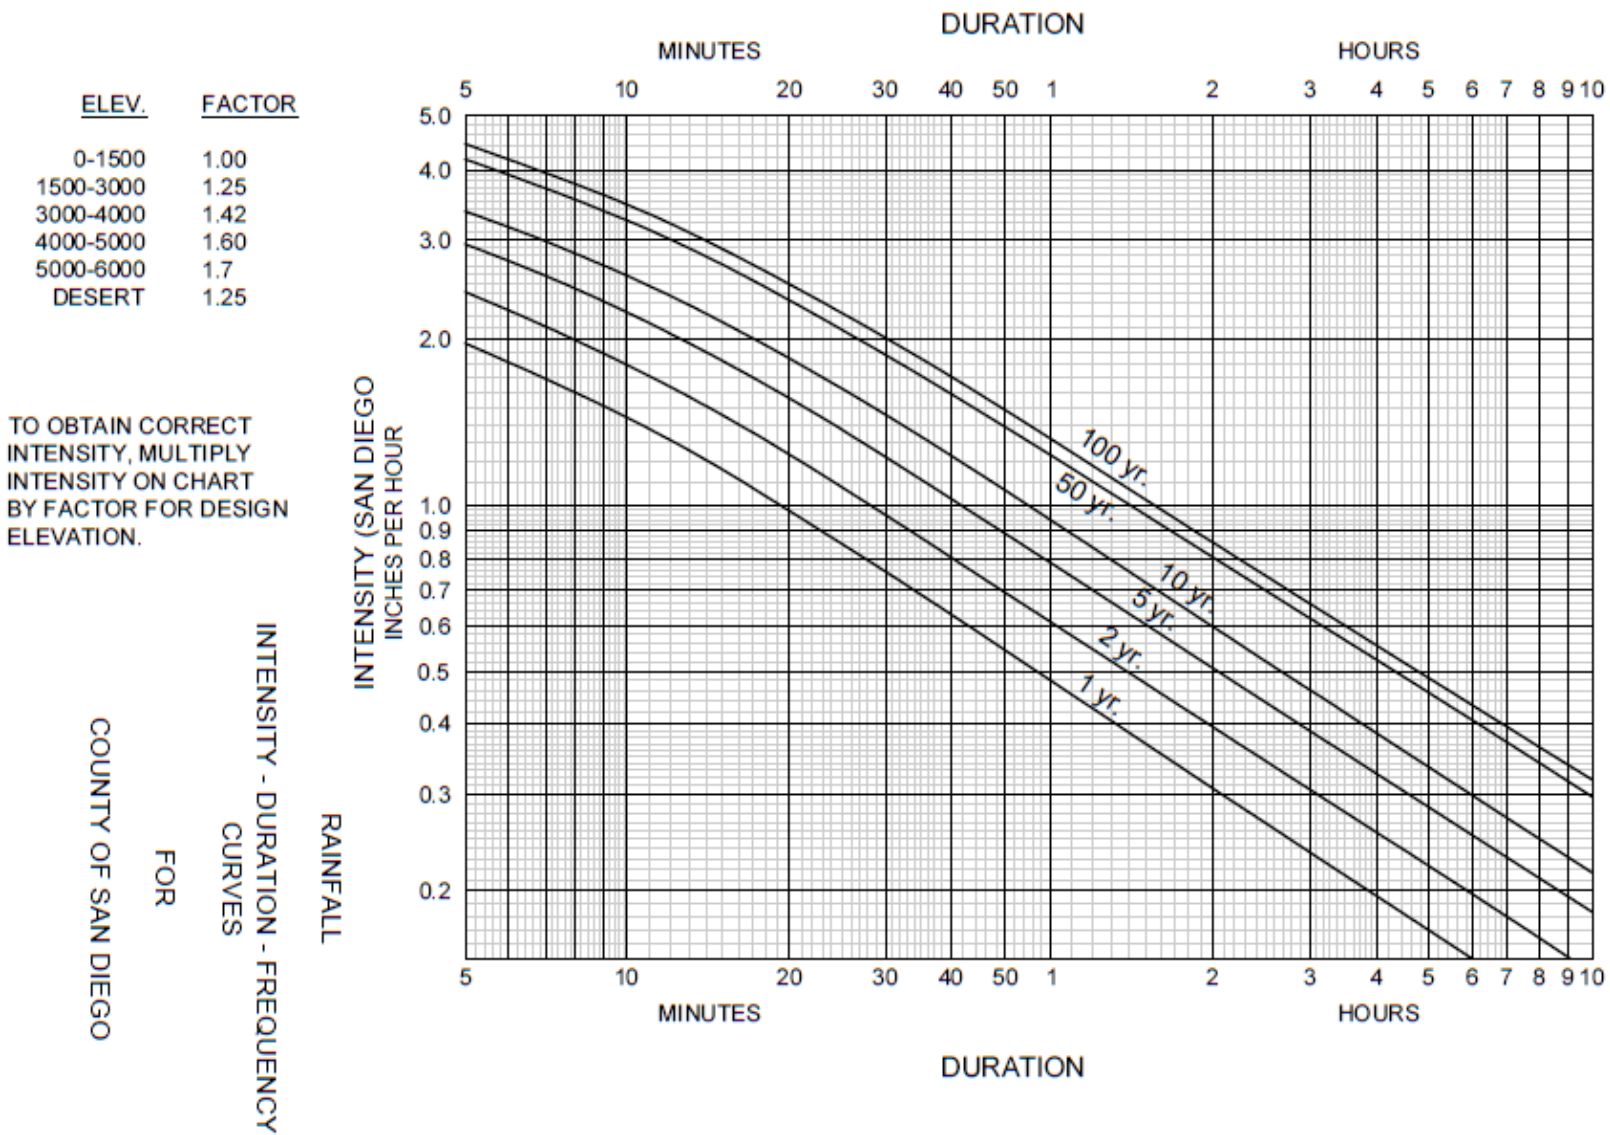

Figure A-1. Intensity-Duration-Frequency Design Chart
The rainfall intensity (I) is the rainfall in inches per hour (in/hr.) for a duration equal to the T_c for a selected storm frequency. Once a particular storm frequency has been selected for design and a T_c calculated for the drainage area, the rainfall intensity can be determined from the Intensity-Duration-Frequency Design Chart (Figure A-1).